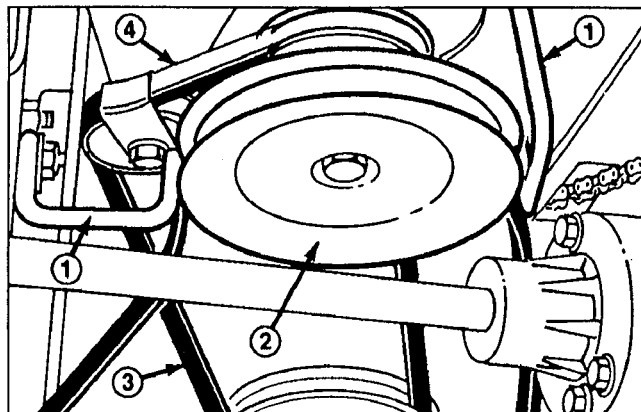

Figure 29
2. Set height-of-cut control to lowest setting and loosen belt guides near engine pulley. Remove belt from engine pulley (Fig. 29).
3. Loosen and remove (1) mounting screw securing each belt guide to cutting unit. Pivot belt guides away from spindle pulley and remove belt. Visually inspect belt for wear or damage (Fig. 29).
4. Replace belt guides for transmission pulley and retighten belt guides on engine pulley. Install belt retainer on idler pulley positioned toward rear as shown in Figure 29.